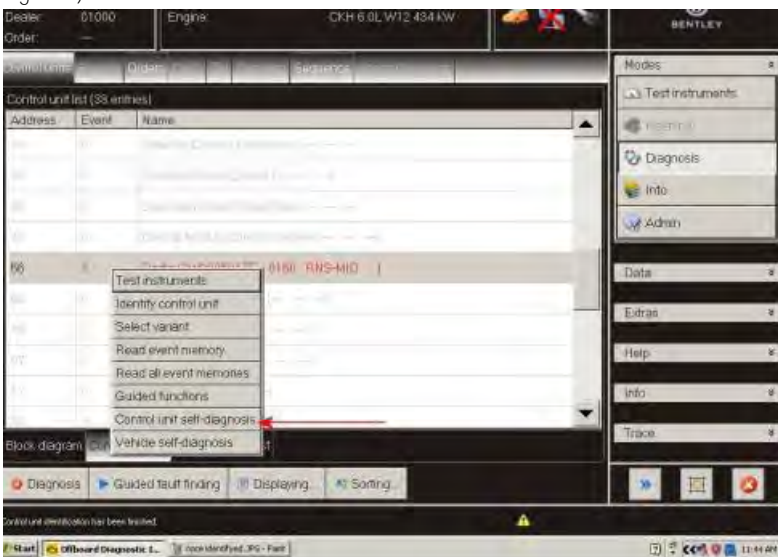

Figure 3
- Once the control module has been identify by the diagnostic program touch, hold then release the selected box again to reveal drop down menu this time select *Control unit self-diagnosis* (see Figure 3)